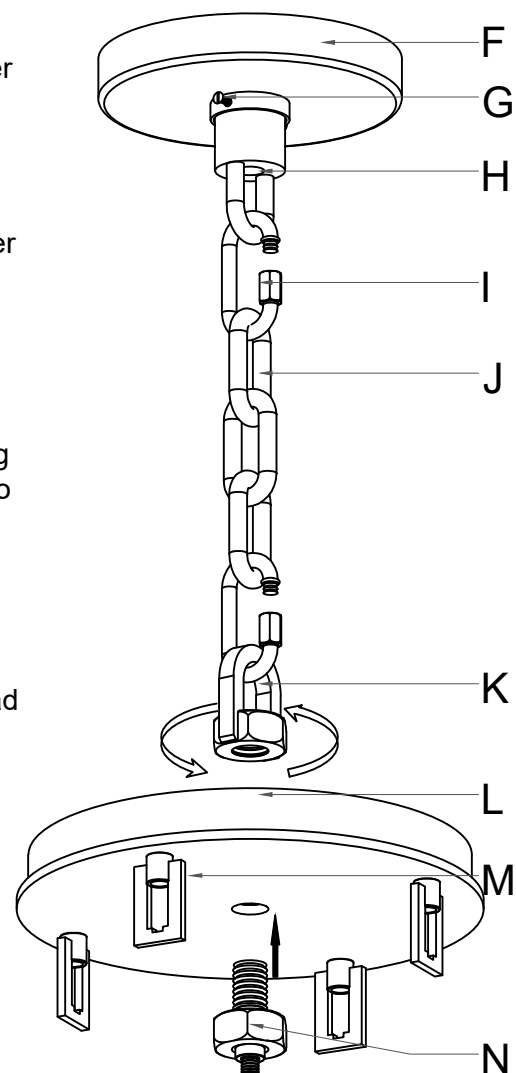

FIGURE 03
4. Attach the Quick link(I) @ the Collar loop(H) with the Chain(J) and thread Top loop(K) onto nut with the Sub-Canopy(L) assembly in between. (**see fig. 03**)